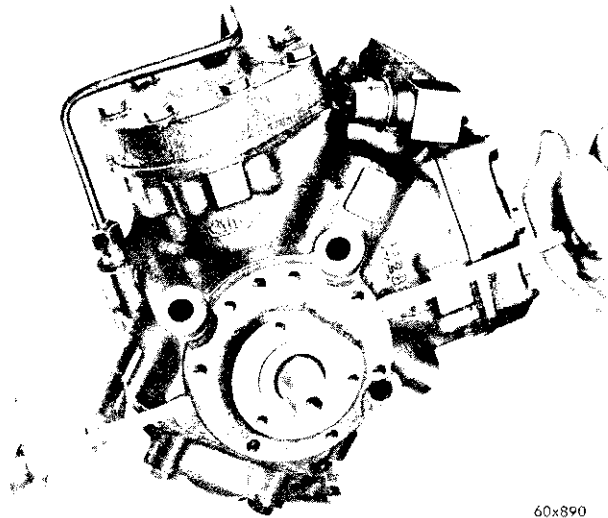

Fig. 58—Crankshaft Bearing Housing Removal
- (1) Remove crankshaft housing seal bolts.
- (2) Remove bearing housing from case, using two screwdrivers inserted in slots provided to pry housing from case. (See Fig. 58).
- (3) Remove the crankshaft bearing housing seal